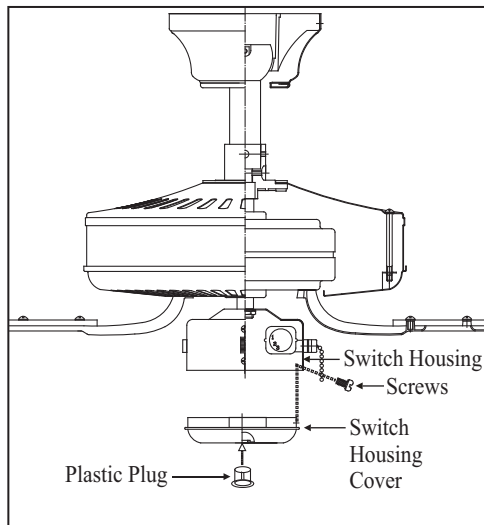

Figure 22
2. Attach the plastic plug to the switch housing cover. (Fig. 22)
3. Install the switch housing to the mounting plate with screws provided. (Fig. 22)